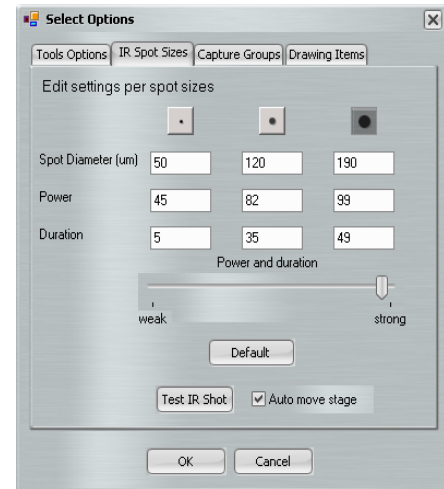

Figure 47 IR Spot Sizes tab.
4. Click the button under **Edit settings per spot sizes** for the size of spot (small, medium, or large) for which you want to set the parameters (see Figure 47).